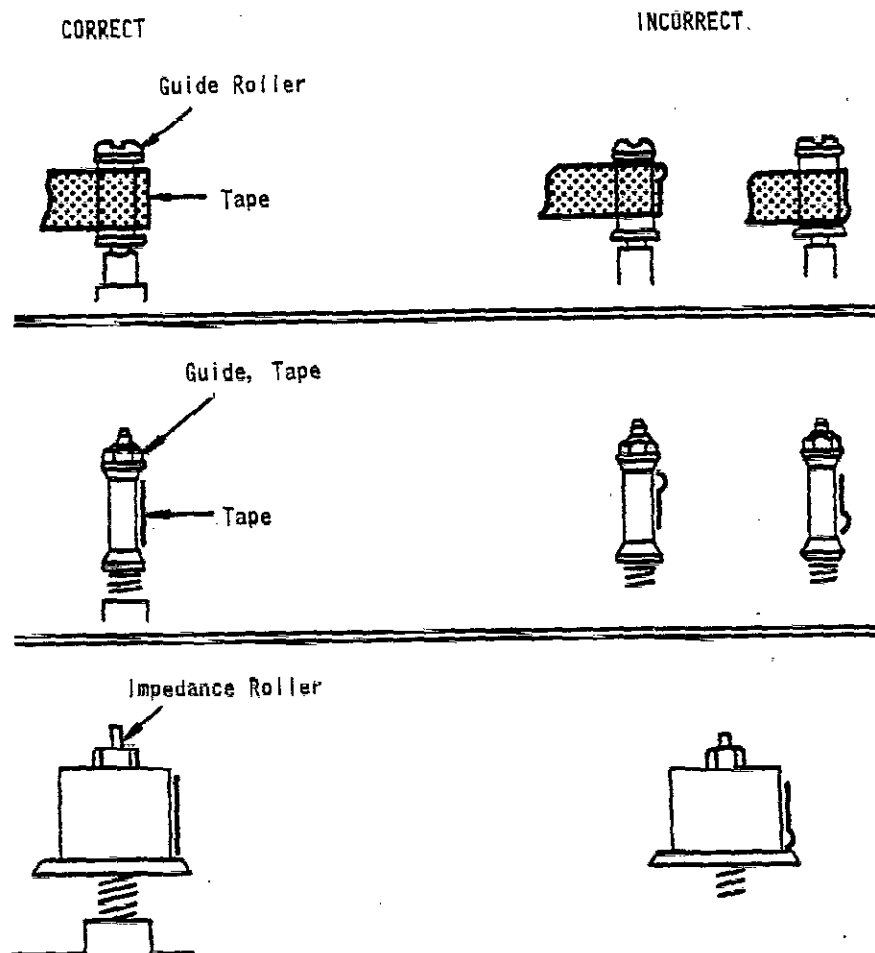

Fig. 5-3
5. During loading, play and unloading, observe the tape at the supply and take-up guide rollers, tape guide and impedance roller. Confirm that there is no curling or creasing etc., as shown in Fig. 5-3.
Adjust the height by turning the driver slightly so that the tape runs on the guide roller as shown in Fig. 5-3, and the lower edge of the tape runs along the lead surface of the cylinder.